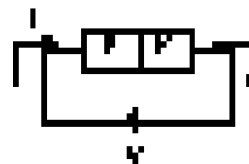

Fig. 2.1
**Forward Biased Diode** On forward biasing a diode initially no current flows due to the barrier potential. The applied forward potential repels the charge carriers and hence pushes them towards the junction (Fig. 2.1). As the applied potential increases, it exceeds the barrier potential at one value (above cut-off value), and the charge carriers gain sufficient energy to cross the potential barrier and enter the other region. The holes, which are the majority carriers in the  $p$ -region, become minority carriers on entering the  $n$ -region and electrons, which are the majority carriers in the  $n$ -region, becomes minority carriers on entering the  $p$ -region. This injection of the minority carriers results in a current, opposite to the direction of electron movement.